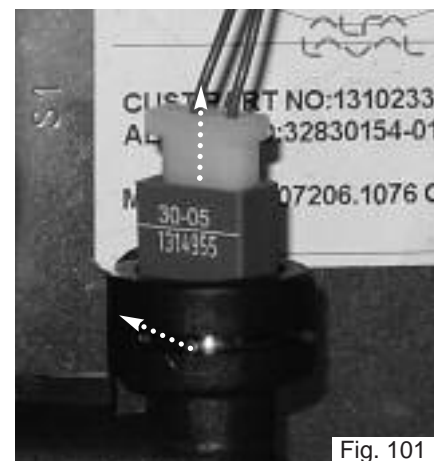

Fig. 101
2. Pull off the sensor connections. Then remove it by releasing its clip (see Fig. 101).